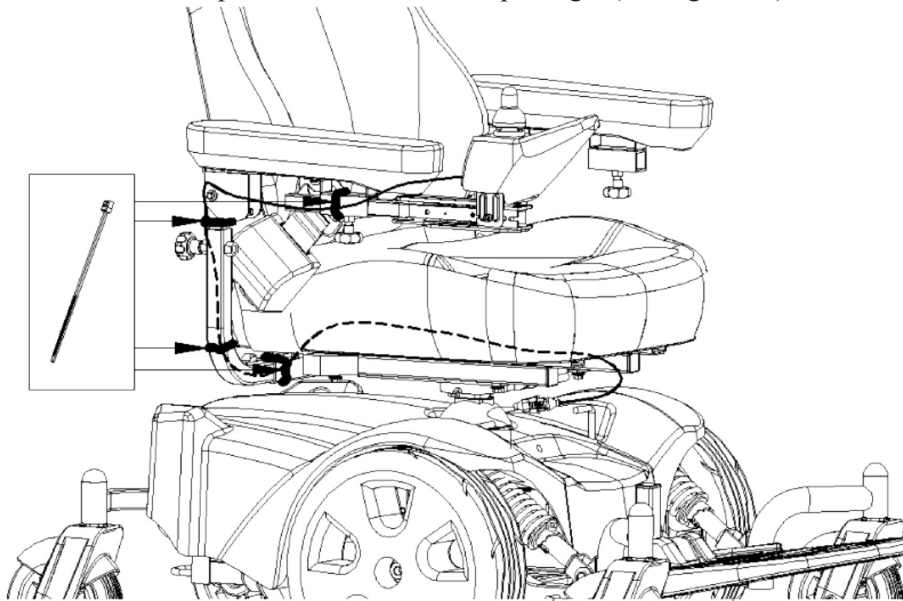

Figure 17.To tie the controller harness safely
9. Route the controller harness along the armrest receiver to the rear of the power base and secure with the wire ties provided in the owner's package. (See figure 17)